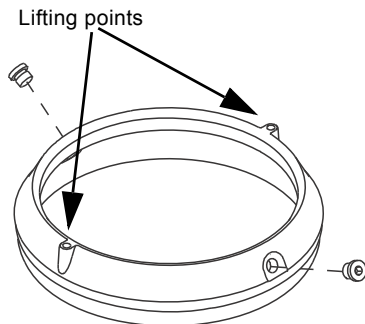

Fig. 15 Lifting points in cooling jacket ring
1. Remove the cooling jacket ring (754) by means of crowbars or by using the lifting points (if available). See fig. 15.